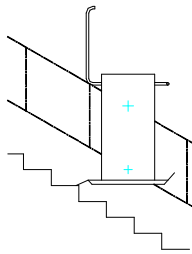

Fig. 2.1
4. Unlock the barrier arm by following the procedure described on page 16. Note that this process is only applicable when the carriage is not positioned at a landing station. The barrier arm on the stair-side only of the lift should be raised; raising the arm to the open side of the carriage would expose the user to toppling off the platform and falling down the stairs. Refer to fig 2.1.